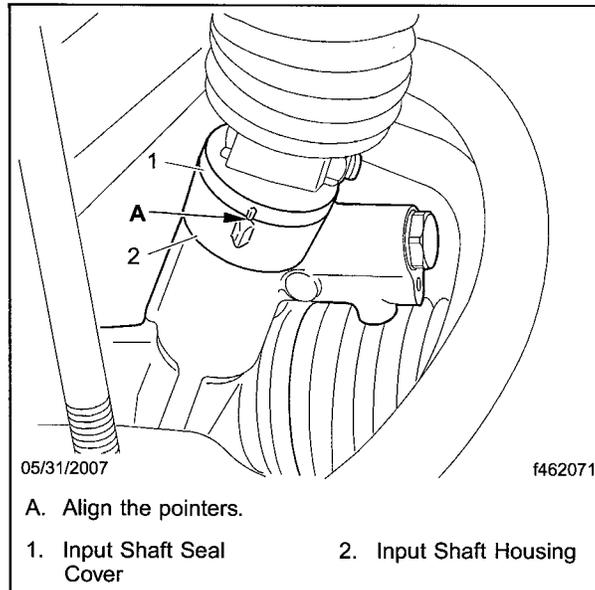

Fig. 15, Rack and Pinion Pointer Alignment
When the alignment process requires that the steering wheel be pointed straight ahead, align the steering rack on-center pointers instead. See Fig. 15
11. Center the rack travel and align the timing pointers on the input shaft seal cover and the input shaft housing. See **Fig. 15**.
17. With the wheels on turnplates, center the rack travel by aligning the timing pointers on the input shaft seal cover and the input shaft housing. See Fig. 15.